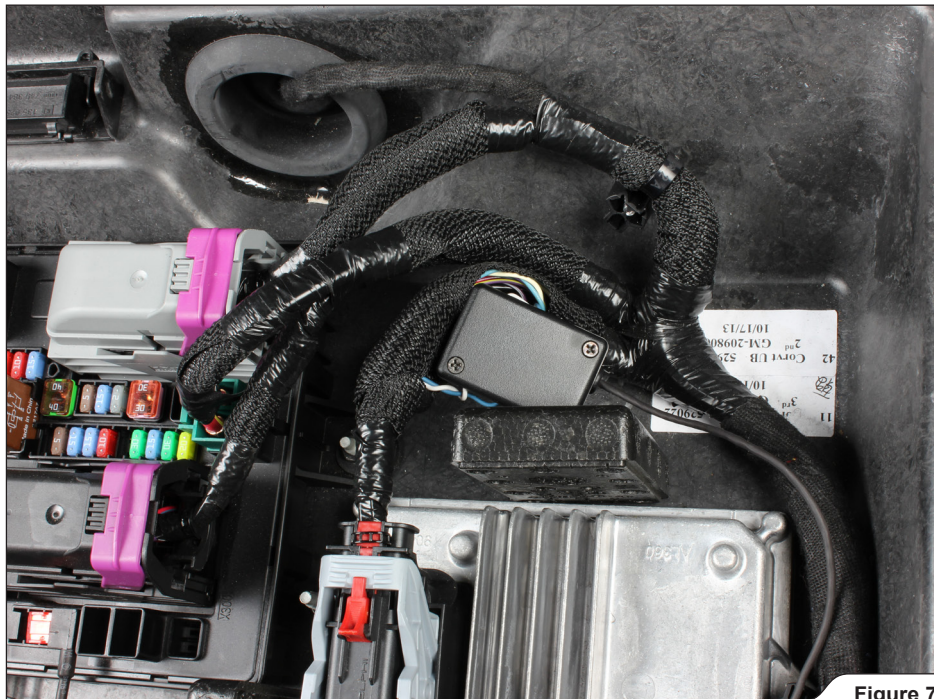

Figure 7
7. Carefully open the insulation of the stock control unit's wiring harness; partially extract and untwist the white and light blue wires. Lead the white and light blue wires through the CAN Sniffer's wire grooves and reinstall the Sniffer's cover (Figure 7, 8).